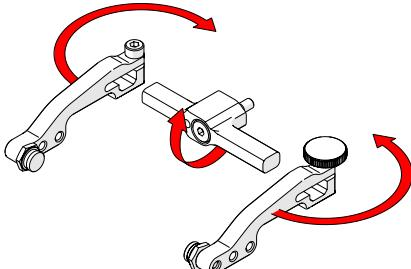

*Fig. 212 - Unscrew yoke pivot screw*
1. Unscrew the yoke from the swing arm (*Fig. 212*).